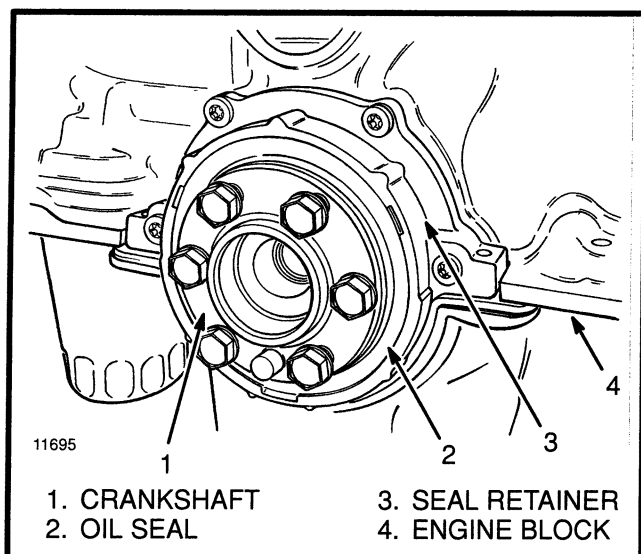

FIGURE 20. REAR SEAL
6. On late model engines with a one-piece seal, install the seal in the retainer. Use a sealant between the seal retainer and the cylinder block, then install the seal retainer (See FIGURE 20.)